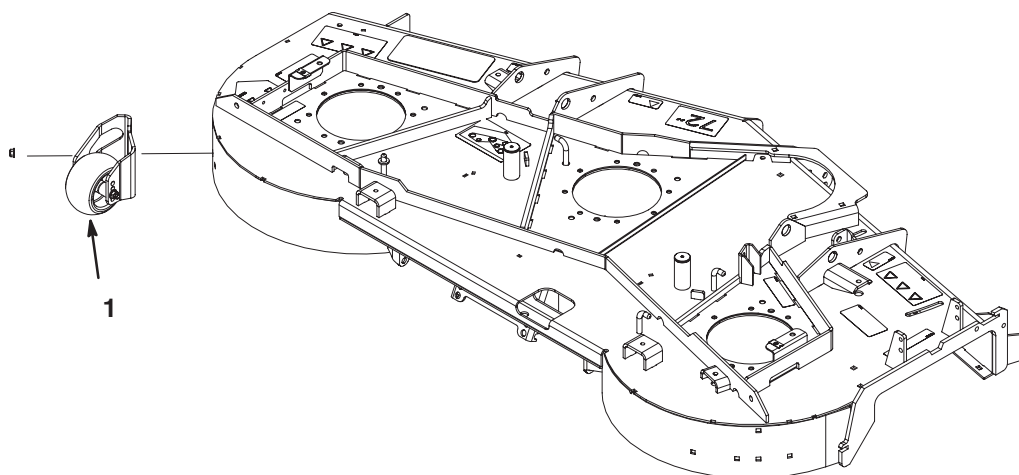

Figure 1
1. Remove the carriage screws and nuts securing the right and left anti-scalp rollers to the rear of the cutting unit (Fig. 1). Note the mounting position of the roller brackets.